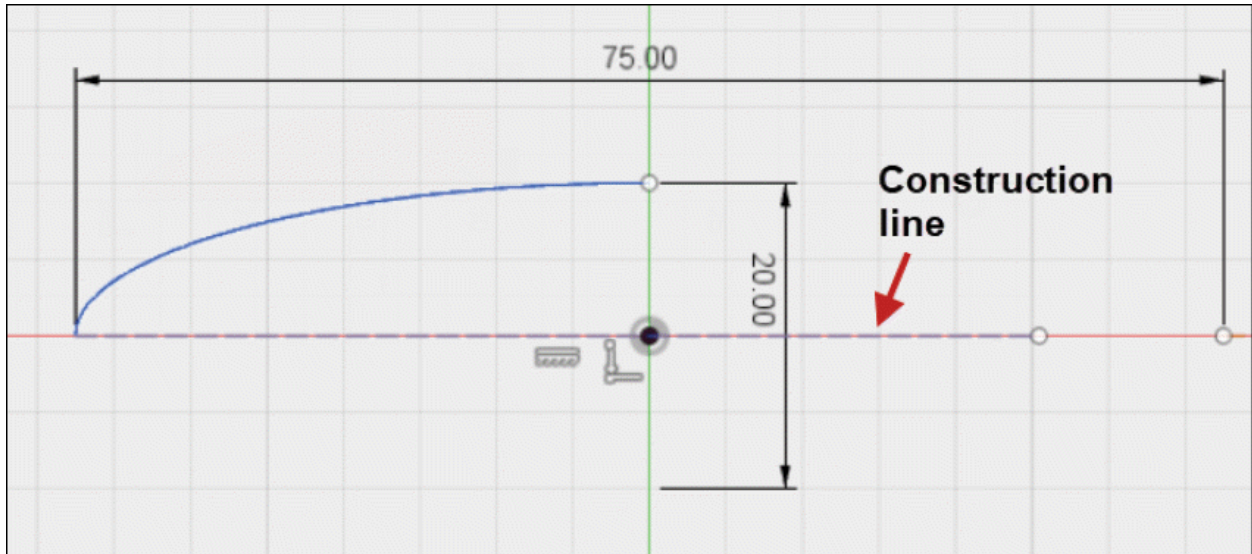

Figure-37. First sketch
- Create the sketch on **Top** plane using **Ellipse**, **Line**, and **Trim** tools; refer to Figure-37.